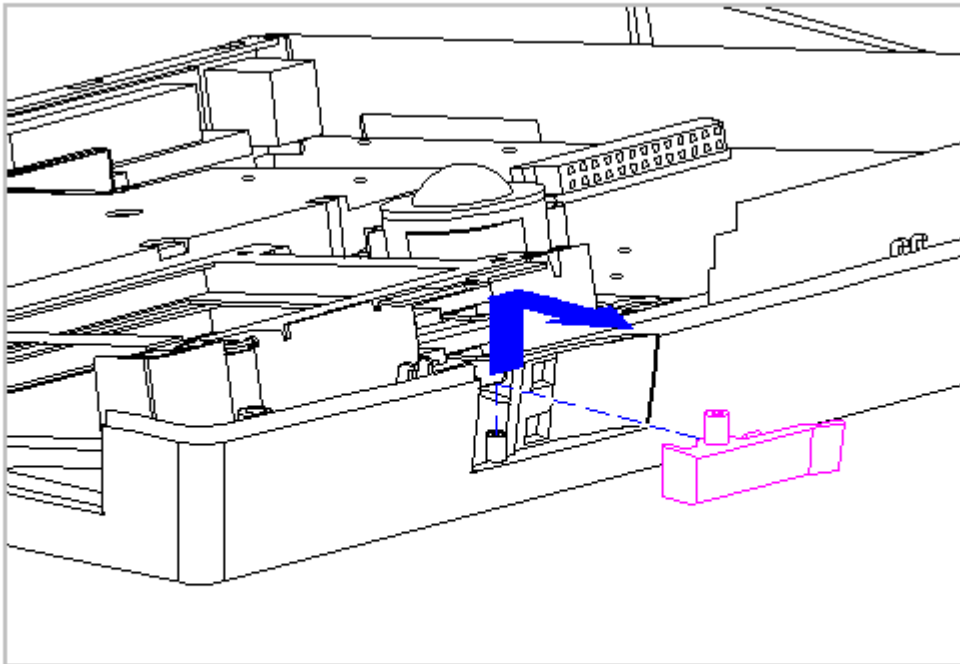

Figure 5-57. Remove the Bottom PC Card Ejection Lever
5. Remove the bottom PC Card ejection lever from the boss on the CPU base (Figure 5-57).